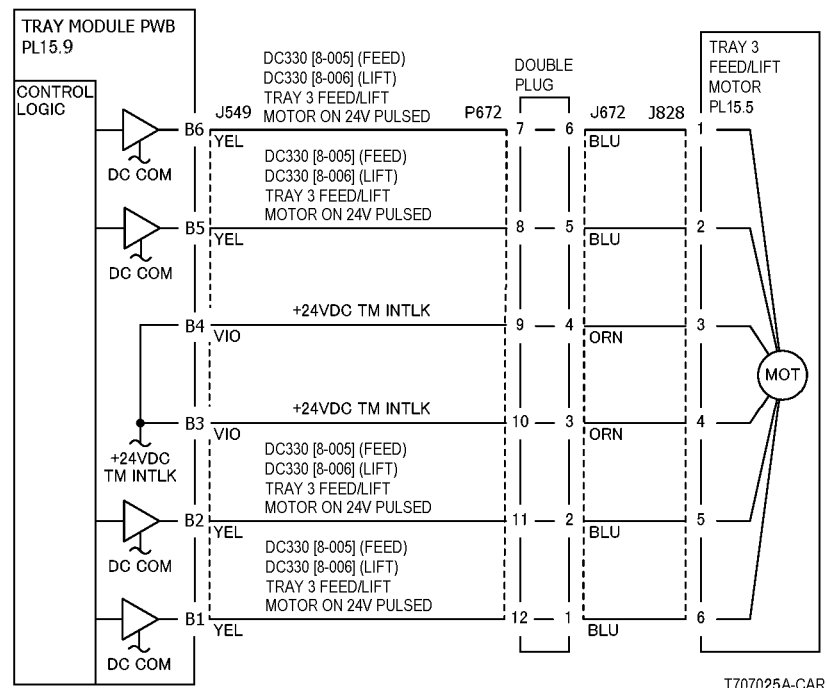
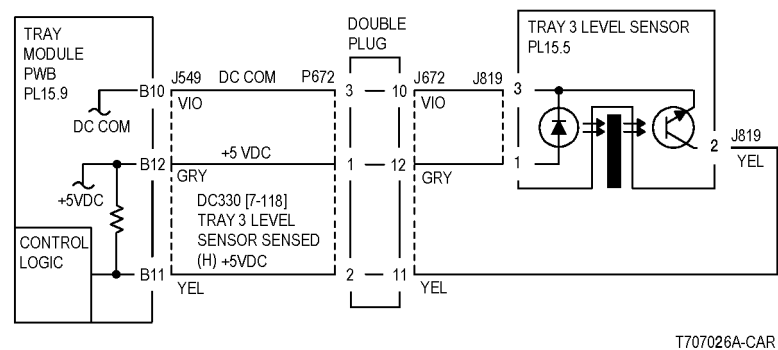

Figure 1 7-283 RAP Circuit Diagram - Tray 3 Feed/Lift Motor (3TM)
Figure 2 7-283 RAP Circuit Diagram - Tray 3 Level Sensor (3TM)
- Ensure that the connectors shown in the circuit diagrams (Figure 1, Figure 2) are securely connected and that the wires are not damaged.